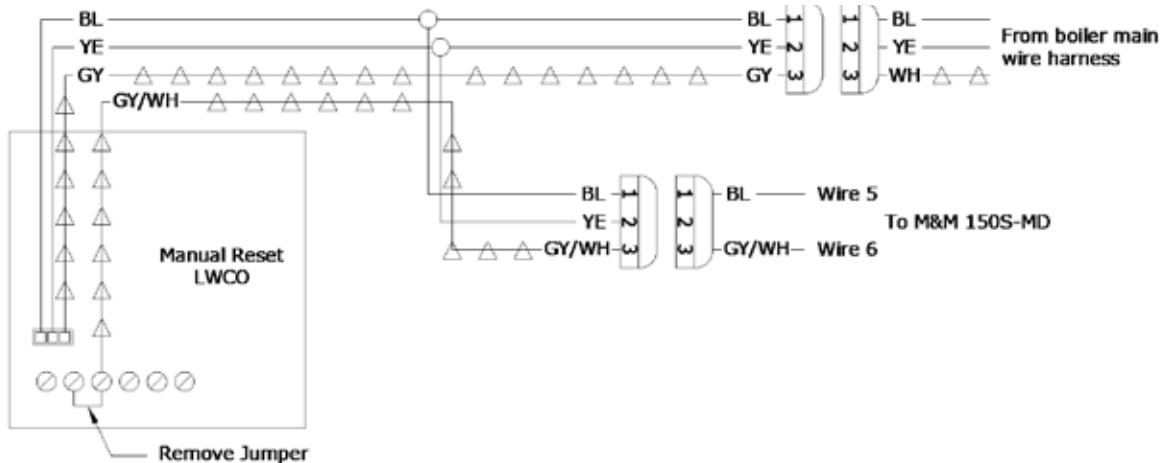

Figure C-2: Auto Reset LWCO Connector in Boiler Wiring Harness
- Plug 150S-MD pig tail into Auto Reset LWCO connector on boiler wiring harness. See Figure C-2.